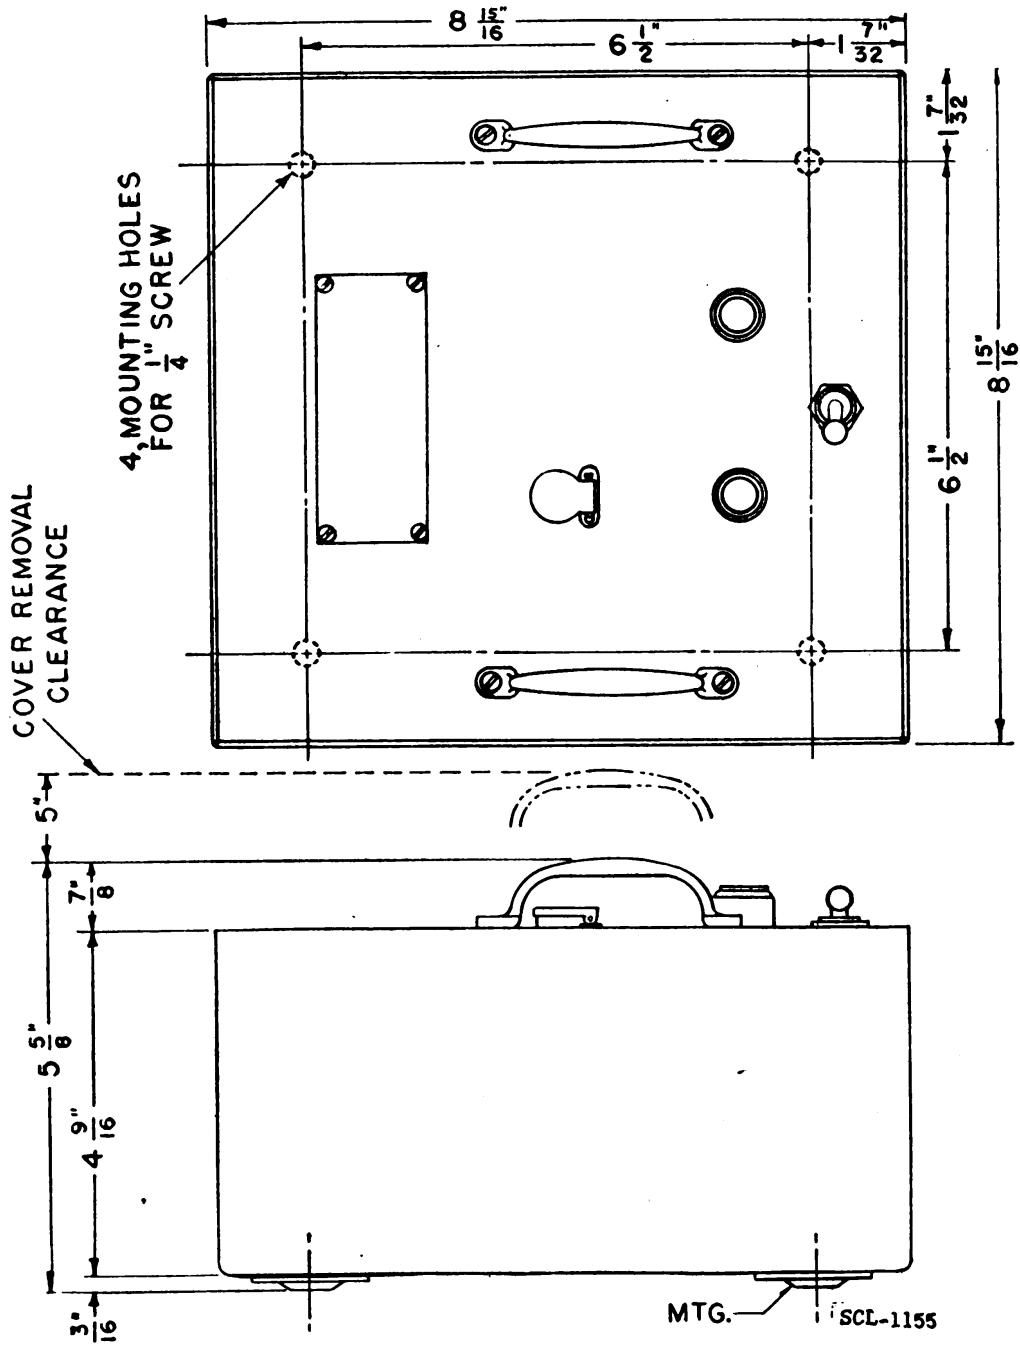

FIGURE 1.—Interphone amplifier BC-367 or BC-667.
*a. Interphone amplifier BC-367 or BC-667 (fig. 1).*—This unit consists of a panel and tube chassis assembly fitting into a sheet steel